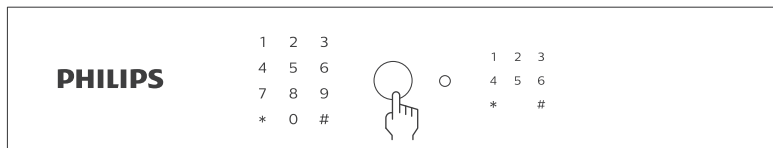

Figure 2
1. Open safe door and press "  " on the battery compartment. After hearing a voice prompt "Please enter fingerprint or PIN code", enter your fingerprint as shown in Figure 2. A voice prompt "Fingerprint entering succeeded." indicates successful operation. If the entering fails, there will be a voice prompt "Fingerprint entering failed". The system will automatically exit if there is no entering in 8 seconds.